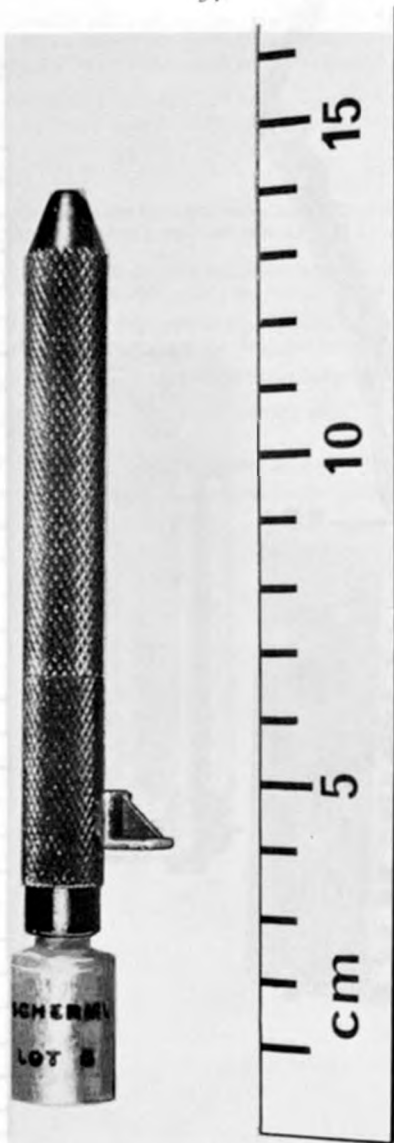

Fig 21. The pistol
- (a) *Withdraw the pistol (see fig 21) from the pack then open the top of the pack.*